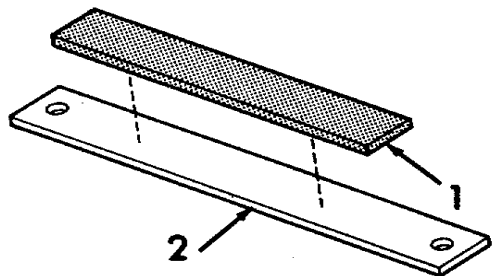

Figure 5-11. Felt Shock Absorber, Replacement.
- (3) Replacement of the felt shock absorber as follows (refer to Figure 5-11):
- (a) Scrape off old shock absorber (1) from holddown strap (2).
- (b) Install a new shock absorber (1) to the holddown strap (2) using adhesive (Appendix E, item 7).